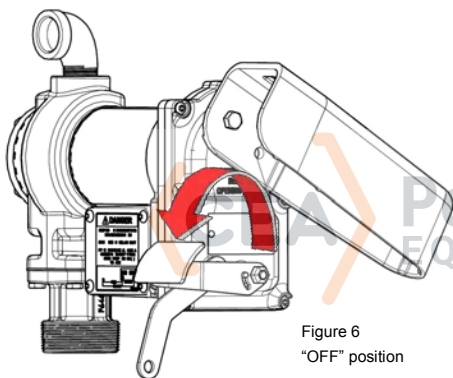

Figure 6
6. Move switch lever to the "OFF" position (Figure 6) to turn off the pump.